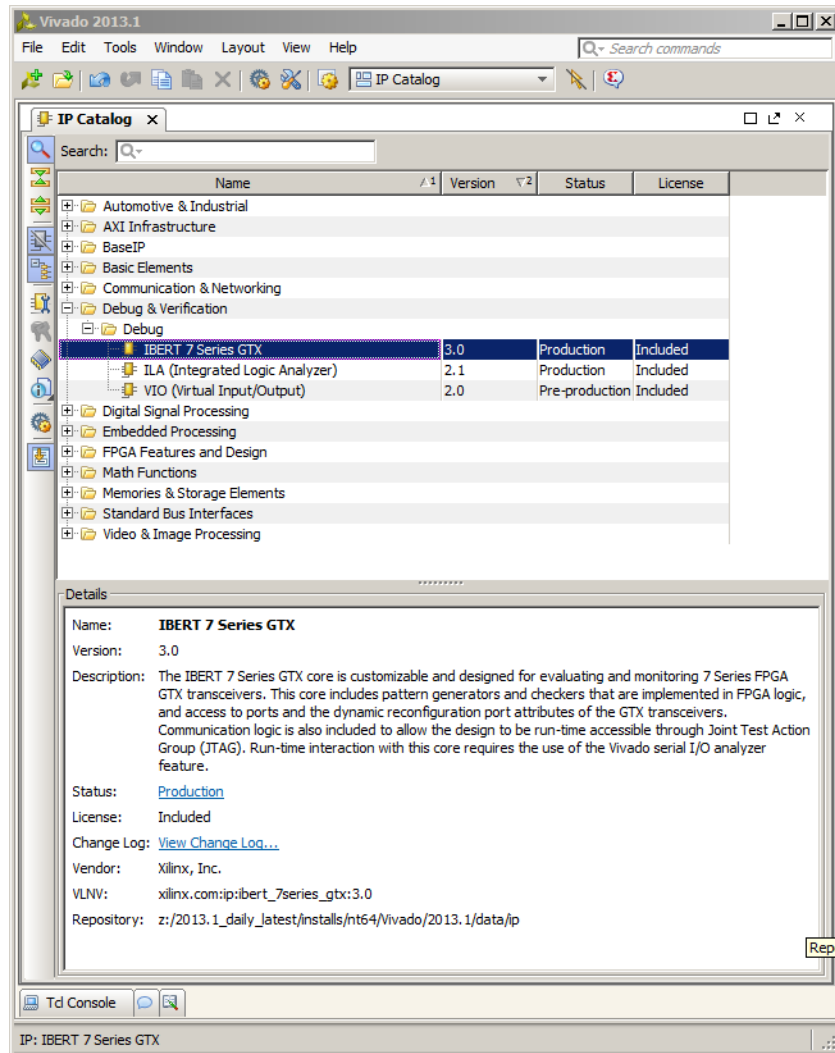

Figure 7-1: IP Catalog Showing the IBERT 7 Series GTX Core
4. In the IP Catalog under Debug and Verification->Debug, you will find one or more available IBERT cores as shown in Figure 7-1, depending on the device selected in the previous step.